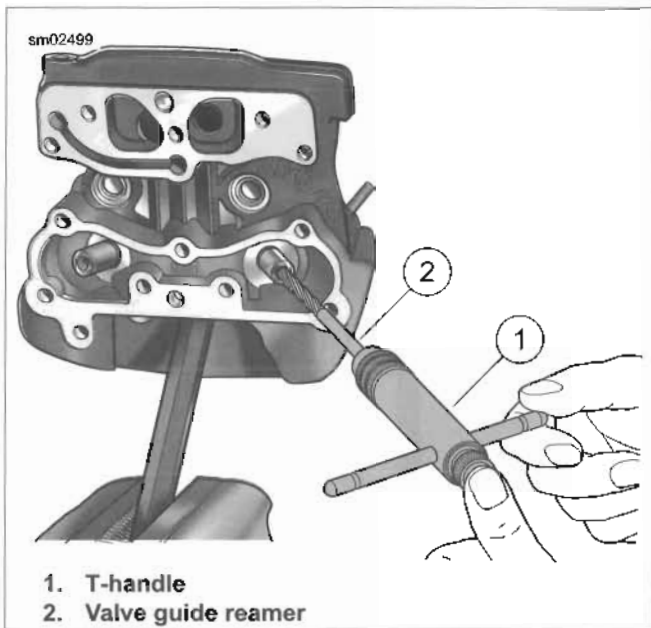

Figure 3-47. Reaming Valve Guide Bore
5. See Figure 3-47. Ream the guide.
- a. Install REAMER T-HANDLE (Part No. HD-39847) (1) on VALVE GUIDE REAMER (Part No. B-45523) (2).